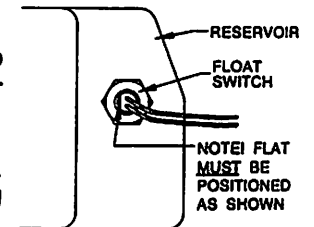

Fig. 5.4
10. Maneuver the switch into the mounting hole in the reservoir. Position switch as shown in **Fig. 5.4**.